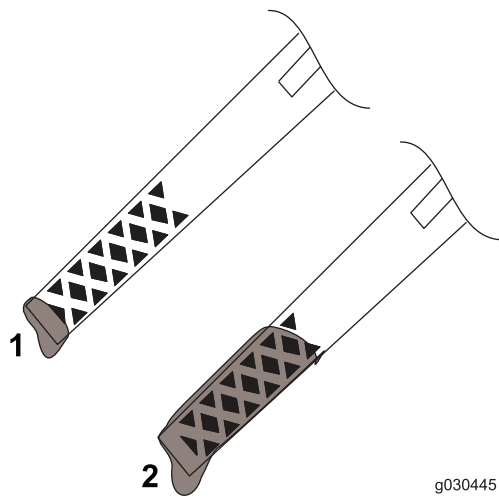

Figure 20
A. Remove the dipstick and slowly pour oil into the oil-fill tube to raise the oil level to the Full mark on the dipstick (Figure 20). **Do not overfill.**